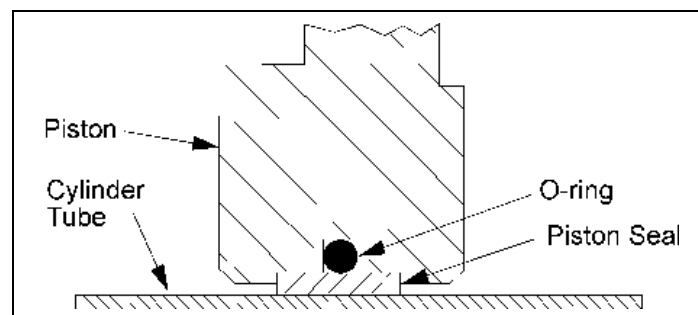

Figure 2 – Piston Seal Installation
7. Slide the medium size lubricated O-ring over the piston until it fits in the groove. See Figure 2.
8. Slide the lubricated piston seal over the piston without stretching it any more than necessary. The seal should fit into the groove over the O-ring. See Figure 2.